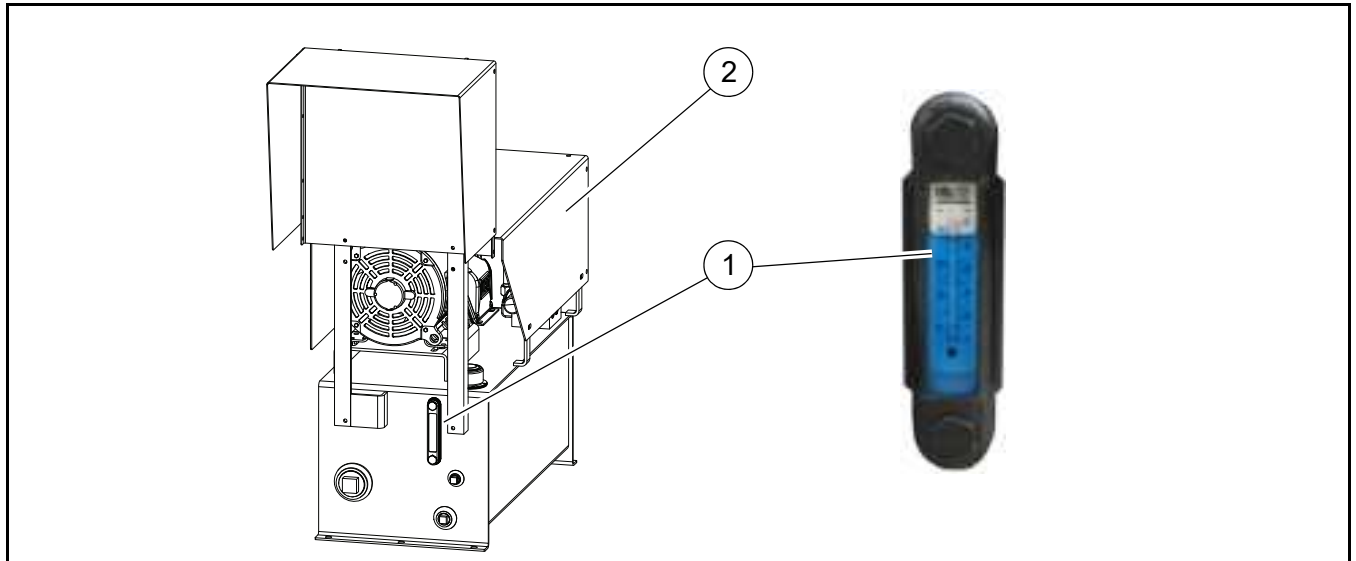

Figure 11
3. Check the hydraulic fluid in the reservoir to be sure it is adequate. The oil must be to the 3/4 level or full on the sight gauge (**Figure 11, 1**). To add or replace, use an ISO Viscosity grade 15 of Northland Tamar Extreme[®] LTE premium anti-wear hydraulic fluid. Hydraulic fluid can be used from an alternative vendor, but the fluid must meet the properties identified in the table in the MAINTENANCE section. Also, any alternative hydraulic fluid must meet the performance specifications identified at the bottom of the table.
4. Remove the cover (**Figure 11, 2**) over the motor and pump to provide access to the motor and pump.